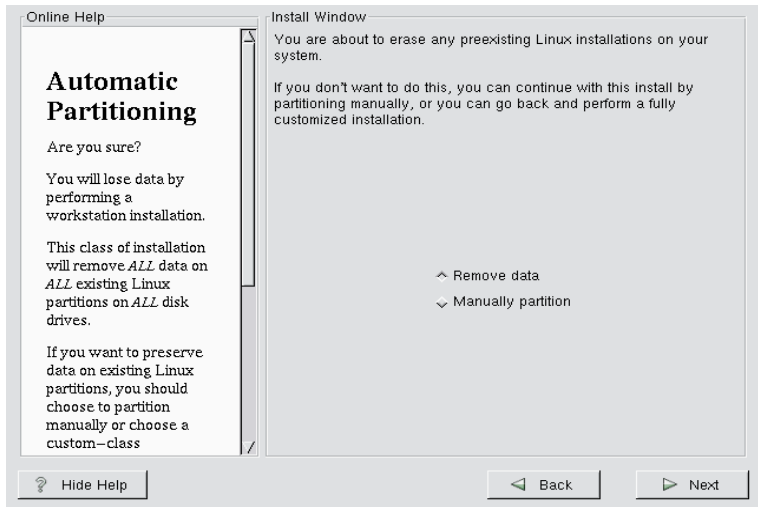

Figure 2 Automatic Partitioning Install Window
1. Click the **Manually partition** option button in the **Install** window. Click **Next** to continue (see Figure 2).